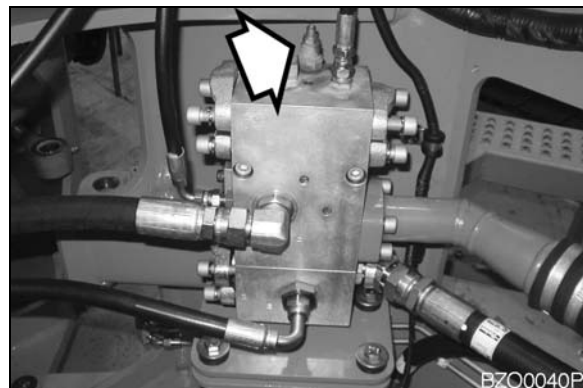

Figure 104
3. Adjust screw on unloading cartridge (C1) (Figure 104).